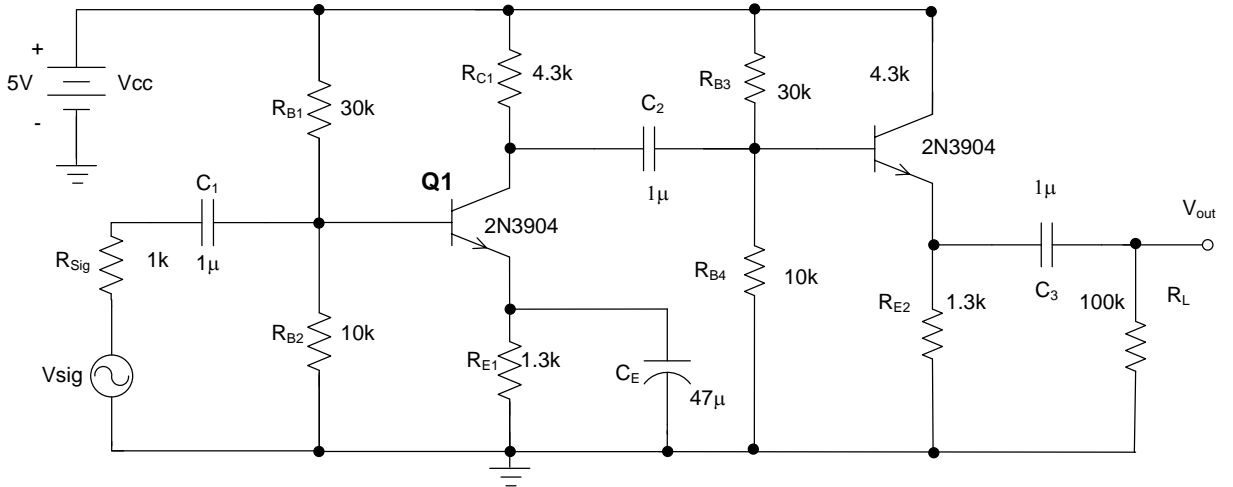

Figure 2: Common Emitter amplifier with Buffer
Where $g_m R'_L$ represents the voltage gain between the two terminals of $C_{\mu1}$ (i.e. the gain between the collector and base of Q1). Since R_L is connected at the collector of Q1, changing its value will directly alter both A_M and ω_H . In order to maintain almost constant gain and hence constant bandwidth a buffer stage or common-collector (CC) amplifier can be used to isolate the load from the basic CE amplifier or $C_{\mu1}$ as shown in Figure 2. Now the input resistance of the CC amplifier (R_{in2}) will act as the new load derived by the collector of Q1. The input resistance of Q2 is slightly dependent on R_L and hence changing R_L will lead to small variation in the gain and ω_H . In other words, since the CC amplifier has a relatively small output resistance which can derive various loads while maintaining almost constant gain. Keeping the gain almost constant will also results in constant bandwidth. Also, note that since CC amplifier has usually much larger bandwidth than that of the CE amplifier, the overall bandwidth of the multistage amplifier will mainly be decided by the poles of CE amplifier.